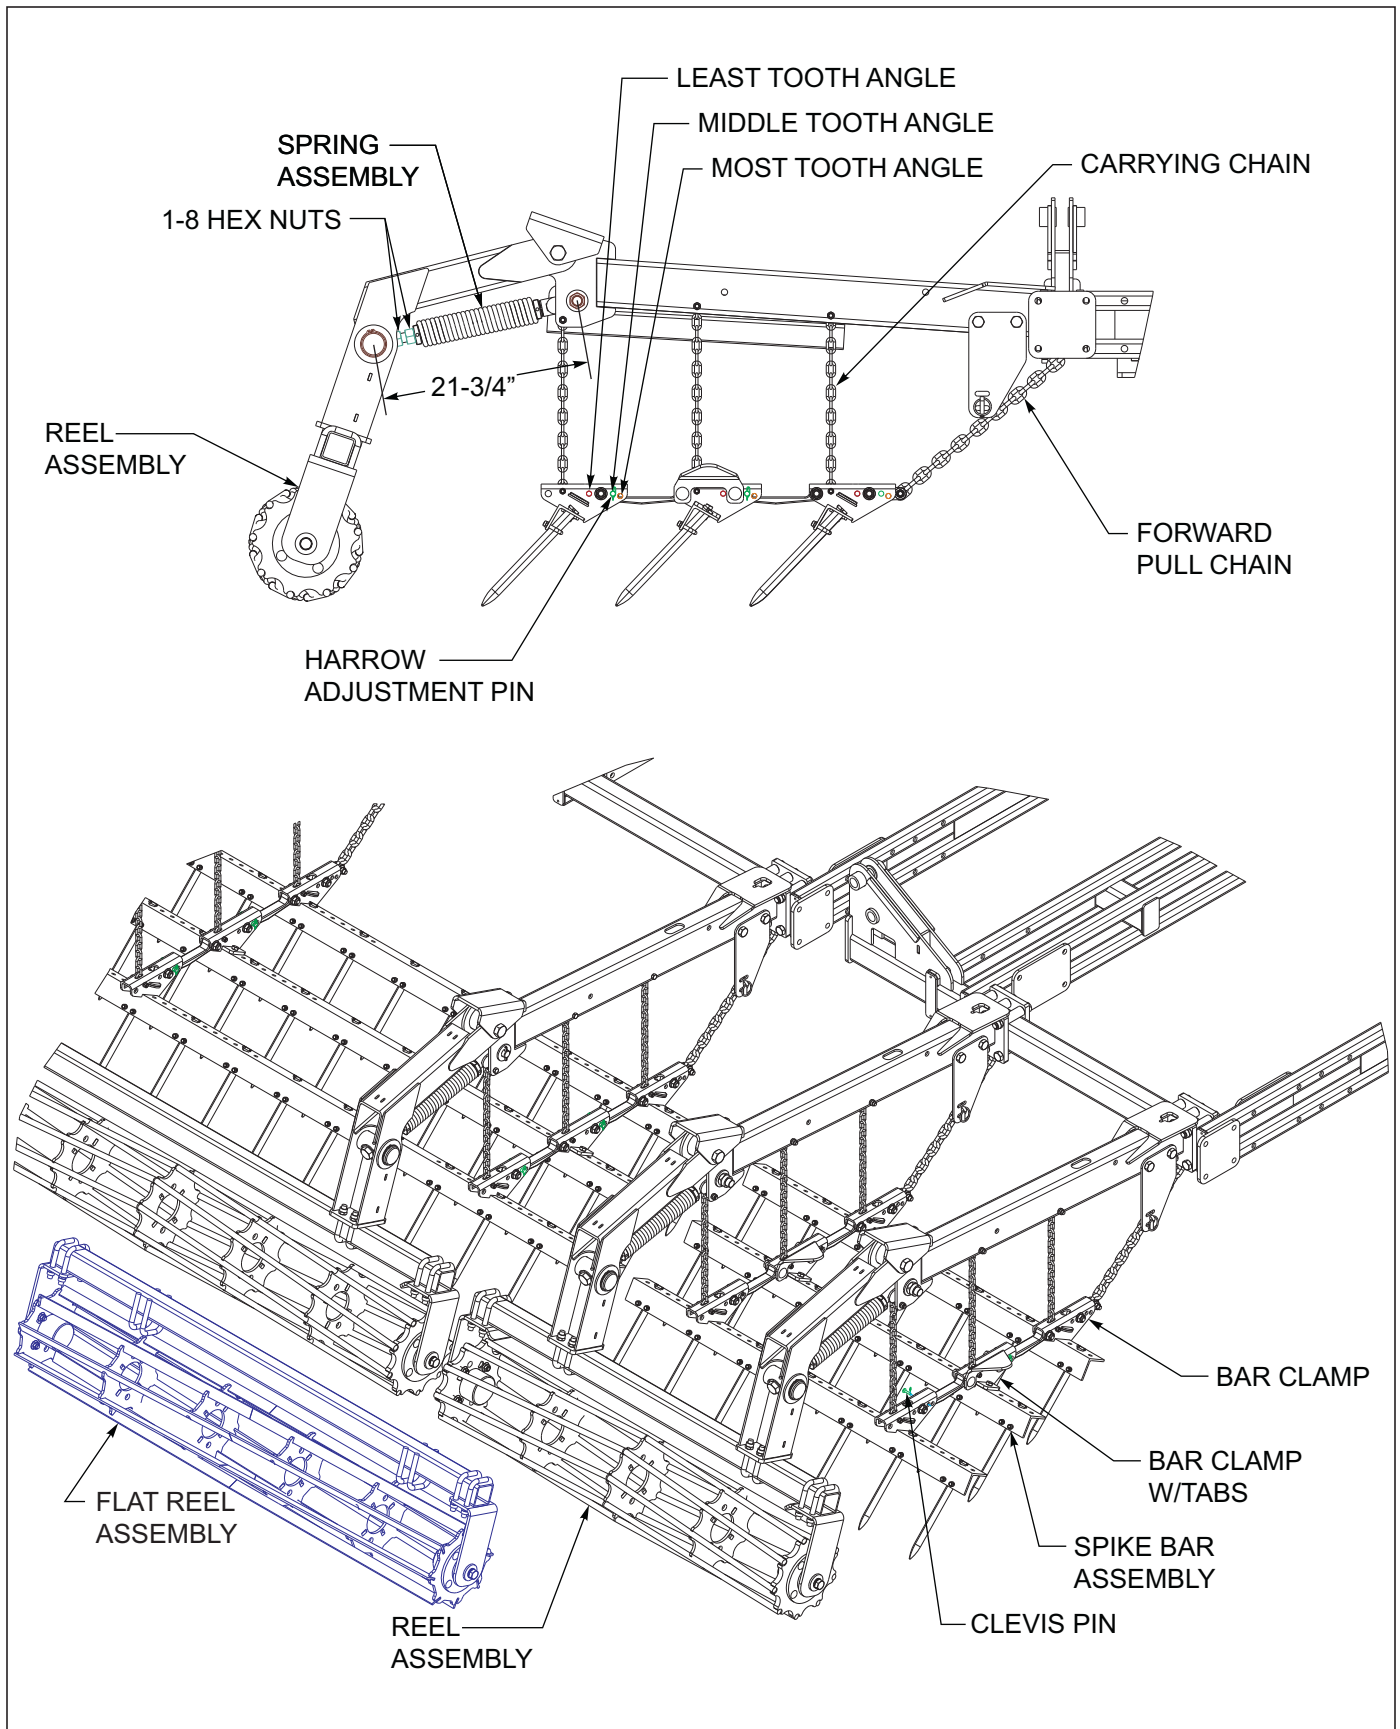

Figure 4-15: 3 Row Spike and Reel Adjustments
3. For the most aggressive spike tooth action, install the harrow adjustment pin in the forward mounting hole over each bar clamp for each spike bar See Figure 4-15. This will position the spike teeth to be in the most vertical position. In wetter or conditions with some residue, lower the spike tooth angle by positioning the harrow adjustment pin in the middle or rear hole. This will allow the teeth to lay flatter and shed more residue.